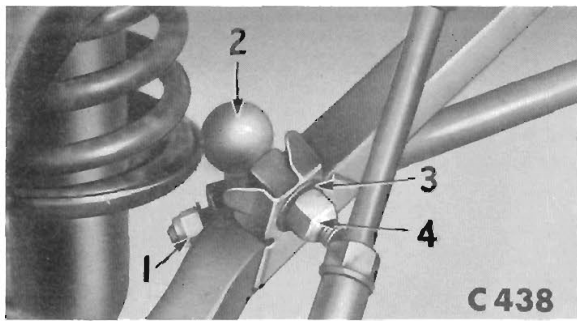

Fig. 25. Anti-roll bar attachment to lower wishbone
2. Secure the damper lower eye to the wishbone with the bolt (14), plain washers (15) and (17) and nyloc nut (18).
3. Secure the upper spring pan to the chassis sub-frame with three washers (6) and nyloc nuts (4). A packing piece is fitted between the upper spring pan and chassis sub-frame on the left-hand side of left-hand drive vehicles.
- 4. Attach the anti-roll bar to the lower wishbone (Fig. 25).